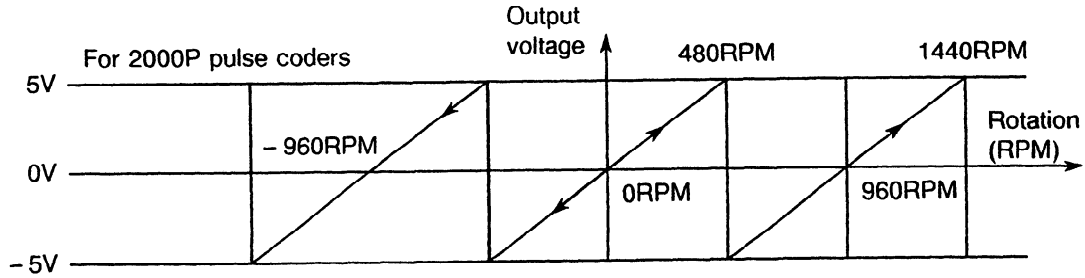

Fig. 6.6 (a) VCMD waveform
### (3) The actual VCMD waveform is a $\pm 5V$ foldback waveform as shown in Fig. 6.6 (a) and therefore when the calculation value exceeds $\pm 5V$ , add or subtract 10V, put back the $\pm 5V$ and compare the waveforms.